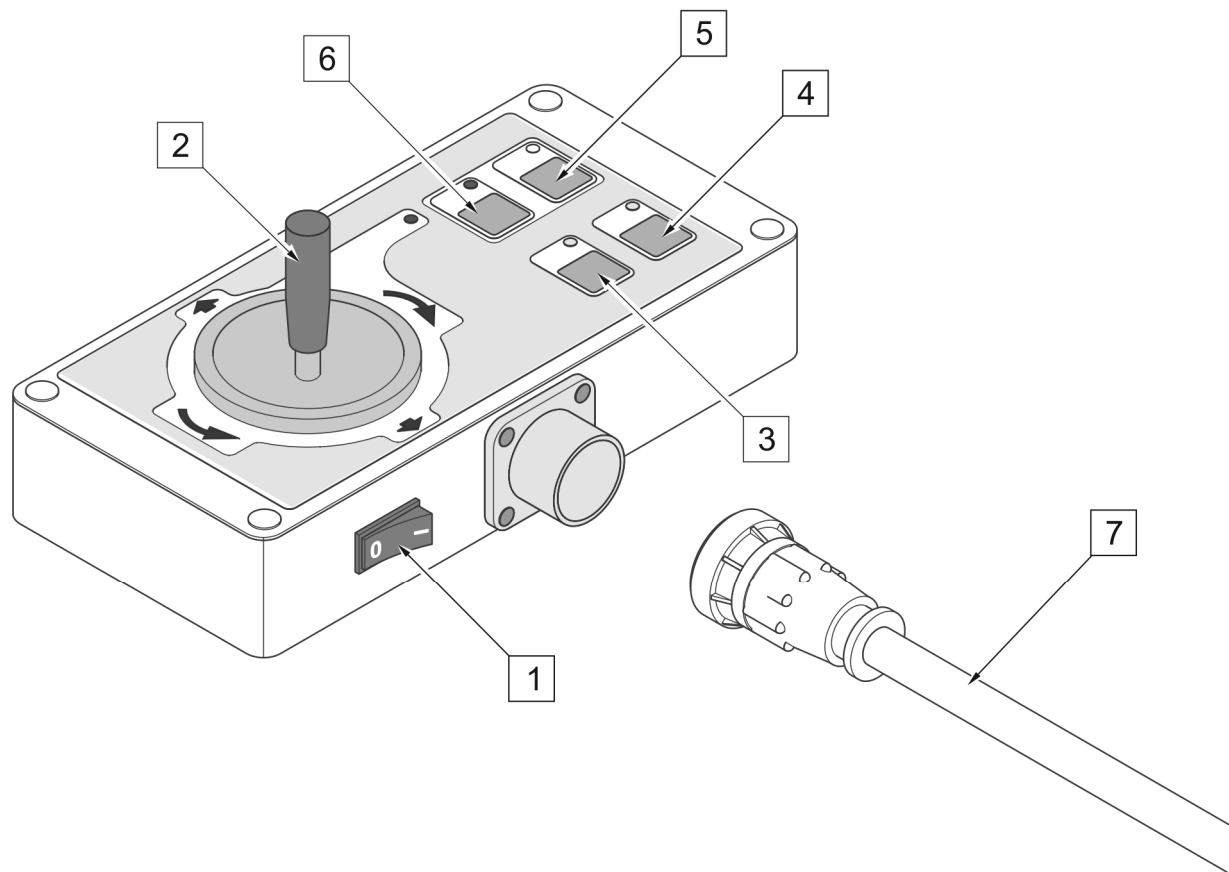

FIG. 4.11 Control panel (applies to the plough with Power-Pack)
In carriers equipped with an electro-hydraulic Power-Pack, the working position is changed using the control panel (FIG. 4.11)
(1) - main switch ; (2) - joystick; (3) - linking function switch; (4) - floating position switch; (5) - lighting switch; (6) - switch not used; (7) - connection line
Control panel (FIG. 4.11) is protected against accidental use by the main switch (1). When the switch (1) is ON, the clearance light on the snowplough mouldboard and the complete control panel are ON.